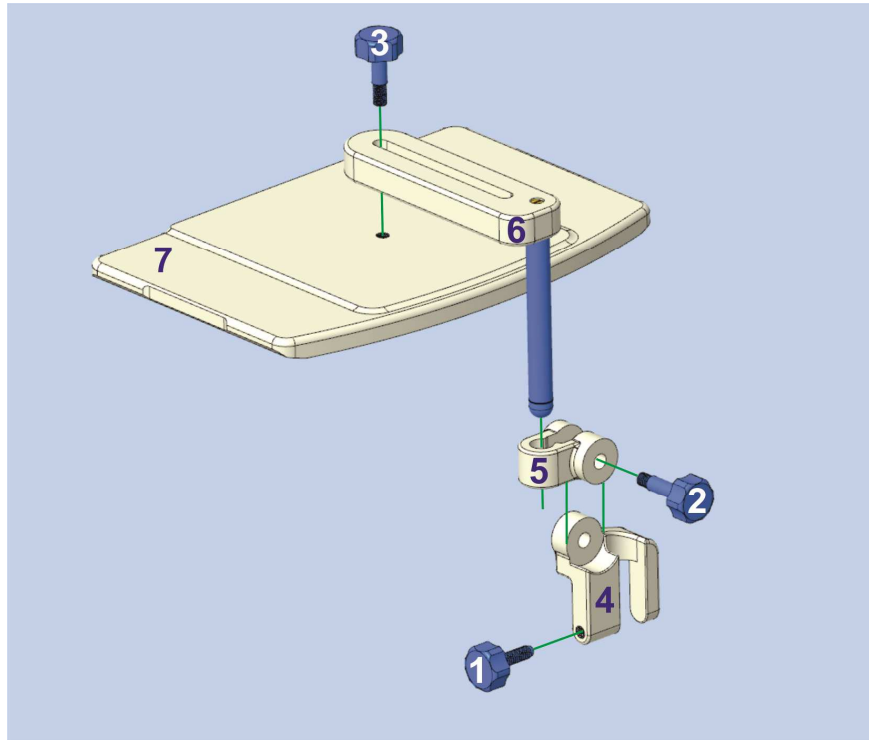

Figure 18: ER Coil Support assembly in “Coil HLD” setup.
- See Figure 18 for details on component arrangement.